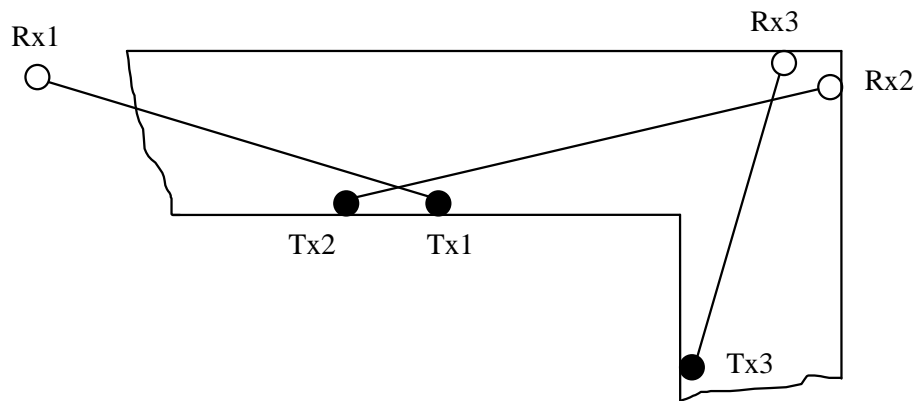

Fig.8.1
8.2.1. Mark the perimeter for the places where the supports are mounted. To increase the protected area, it is necessary to provide the overlapping of the sectors (see fig. 8.1. and 8.2.). The overlapping is necessary to exclude the possibility of the sector’s overcoming under or above Tx (Rx) near from the support.